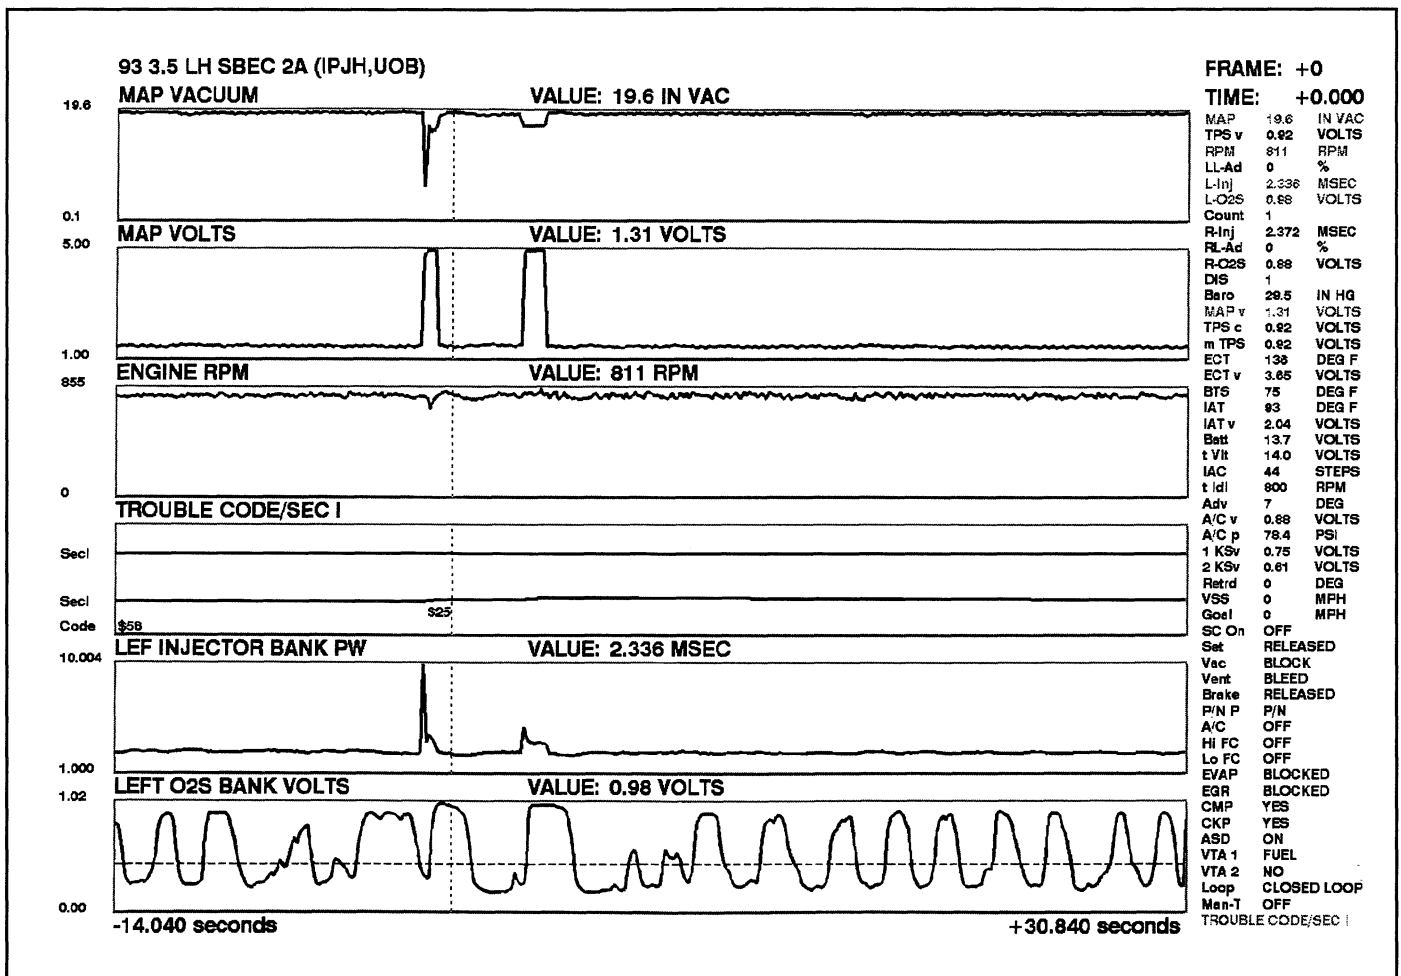

Fig. 2
- Sensor Failure - open circuit connections (Fig. 2)